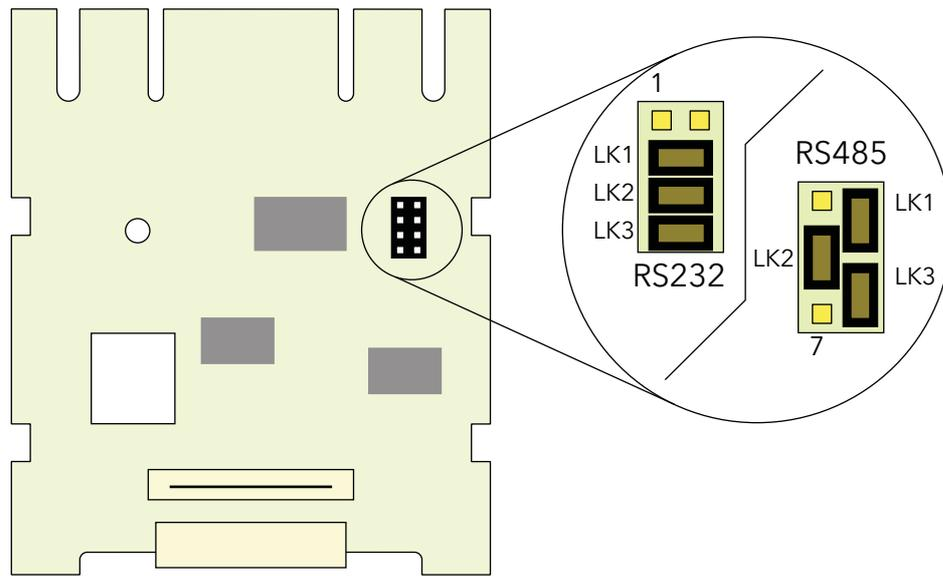

Figure 1b Communications board settings for RS232 or RS485
4. Communications boards have three links which select either RS232 or RS485 as the transmission standard (see figure 1b).